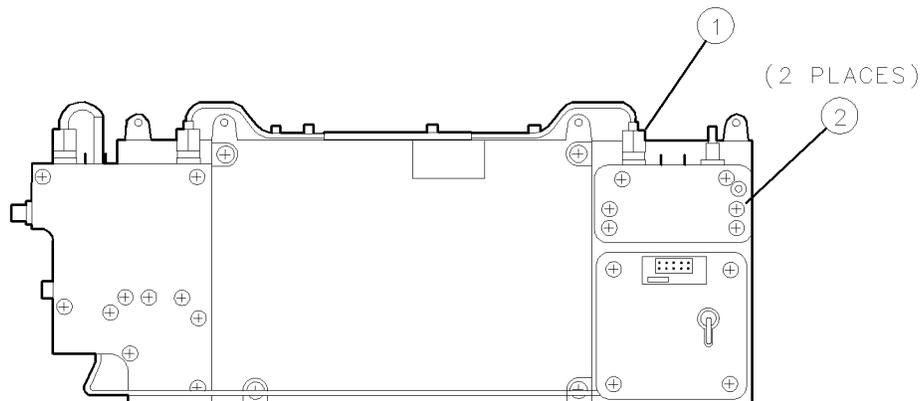

Figure 9-10. A6A3 Idler Buffer Removal/Replacement
2. Remove semirigid cable A6W18 ① from the A6 YTO phase-lock loop. See Figure 9-10.
3. Remove two screws ②, and lift the A6A3 idler buffer from the A6 YTO phase-lock loop.